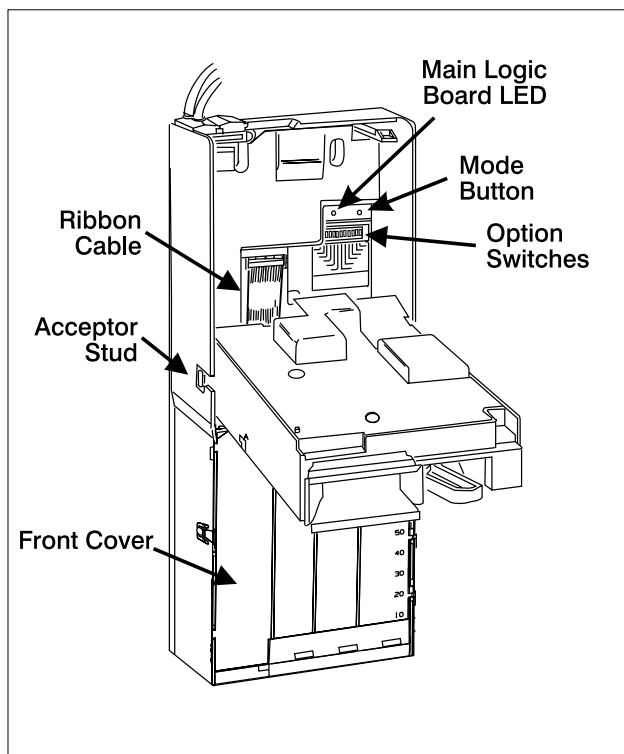

Figure 2
4. Re-install the acceptor by inserting the lower acceptor studs into the changer housing guides. Plug the ribbon cable into the changer (see figure 2).
Located behind the acceptor in the middle right hand side of the changer housing are twelve switches (see figure 2). The vend price is set using the first eight switches, the last four switches are used to enable or disable different options.